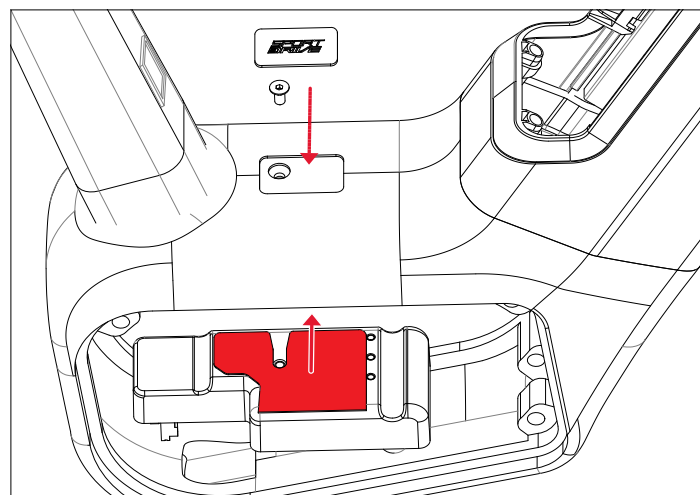

Figure 4.36 Control unit assembly
1. Place the thermally conductive pad on the clean surface of the control unit (Fig. 4.36).
2. Insert the control unit in the hanger and mount the control unit to the hanger using an M4 x 10 fastener (Fig. 4.36). Tighten the fasteners to 2Nm.
3. Cover the head of the fastener with a sticker (Fig. 4.36).